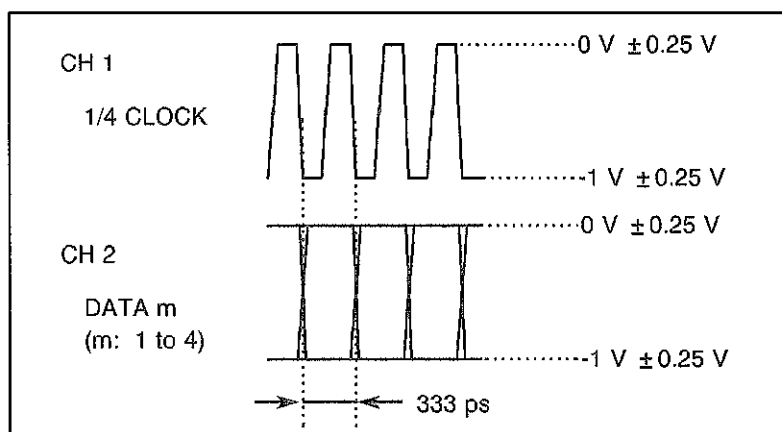

Figure 8-8 1/4 Rate Output Waveform ( $f = 12000 \text{ MHz}$ )
- (8) Confirm that the waveform is a rectangular wave as shown in Figure 8-8.
- (9) Sequentially change the output connected to the oscilloscope CH2 input from the rear panel DATA 1 to DATA 2, to DATA 3, and to DATA 4. Normal if the observed waveform with each output shows a rectangular wave as in Figure 8-8.
- (8) Confirm that the waveform is a rectangular wave as shown in Figure 8-8. (DATA m waveform is viewed slightly darker at LOW level than HIGH level).